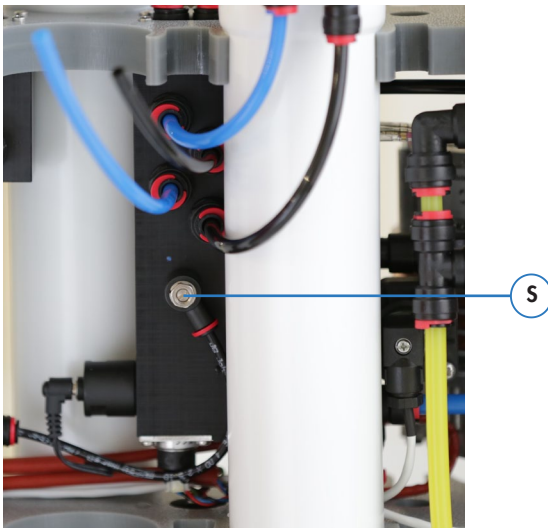

Fig. 9: Adjusting screw (S) for defined blending
By using the integrated blending valve it is possible to increase the permeate conductivity with the partly mixing of feed water. An blending is required, depending on end usage. The adjusting screw (S) is located inside the unit, see Fig. 9. The setting can be changed with a flat screwdriver. The needed conductivity value (setpoint) can be read out on the display.